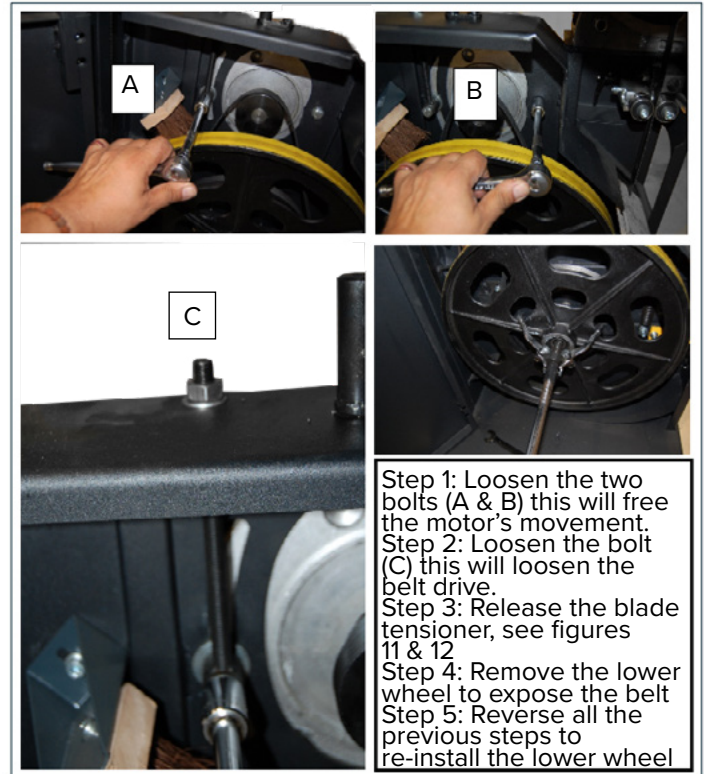

Figure 38: Changing the Motor Belts.
1. **Loosening Motor Fasteners:** Access the internal components of the machine and proceed to loosen the two Hex Bolts (Part #92, see Fig. 38 (A) that secure the motor to the frame. Additionally, loosen the Hex Nut (Part #54, see Fig. 38, B) situated on the top of the Motor Adjusting Rod. This action will allow the motor to be maneuvered downward for belt adjustment purposes.
2. **Lower Wheel Removal:** Remove the lower wheel (Part #9B) from the Wheel Assembly by disengaging the hex head bolt (Part #1, see Fig. 38, A) and washer located at the center of the wheel's hub. Carefully slide the lower wheel off the lower wheel shaft while simultaneously removing the saw blade from the wheel.
5. **Belt Tensioning:** Tension the drive belt until achieving a deflection of 3/8". Adjust the tension by either pushing the motor downward for reduced tension or lifting the motor upwards for increased tension. Refer to page (22) for detailed instructions on Adjusting the Drive Belt Tension.
**NOTE:** Beneath the frame, there exists a secondary hex nut (Part #54, see Fig.38 (B) on the motor pulling rod. This nut must also be loosened to facilitate upward movement of the motor for tension adjustment. Once the desired belt tension is achieved, securely tighten the motor mounting nuts that were previously loosened during the initial steps.
To adjust the lower wheel brush, first, loosen the screw (A) securing the bracket to the band saw's body. Adjust the brush position by moving it vertically as required. Once the brush is positioned correctly, retighten the screw. Refer to Figure 38 for detailed guidance. To replace a damaged brush, remove the two screws (B) fastening the brush to the bracket and install the new brush.